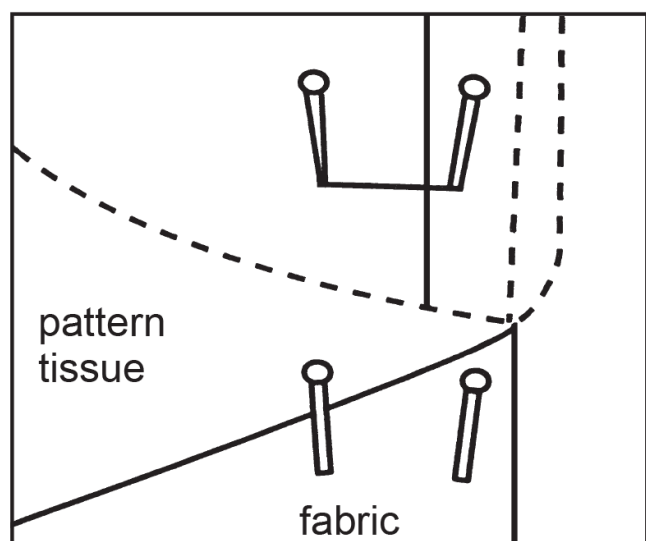

Figure 8. Pins used to mark buttonhole placement.
- Use pins to mark the beginning and ending line of the buttonhole (Figure 8).